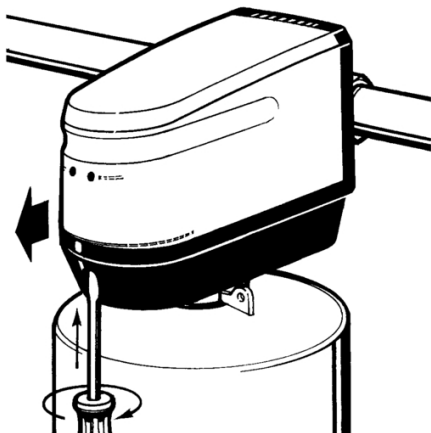

Fig. 8: Cover removal
- Undo the fastening screws of the cover (A) from below (see Figure 8) and remove the cover.
8. Reattach the cover and screw in place (see Figure 8).
1. Remove cover (see Figure 8).